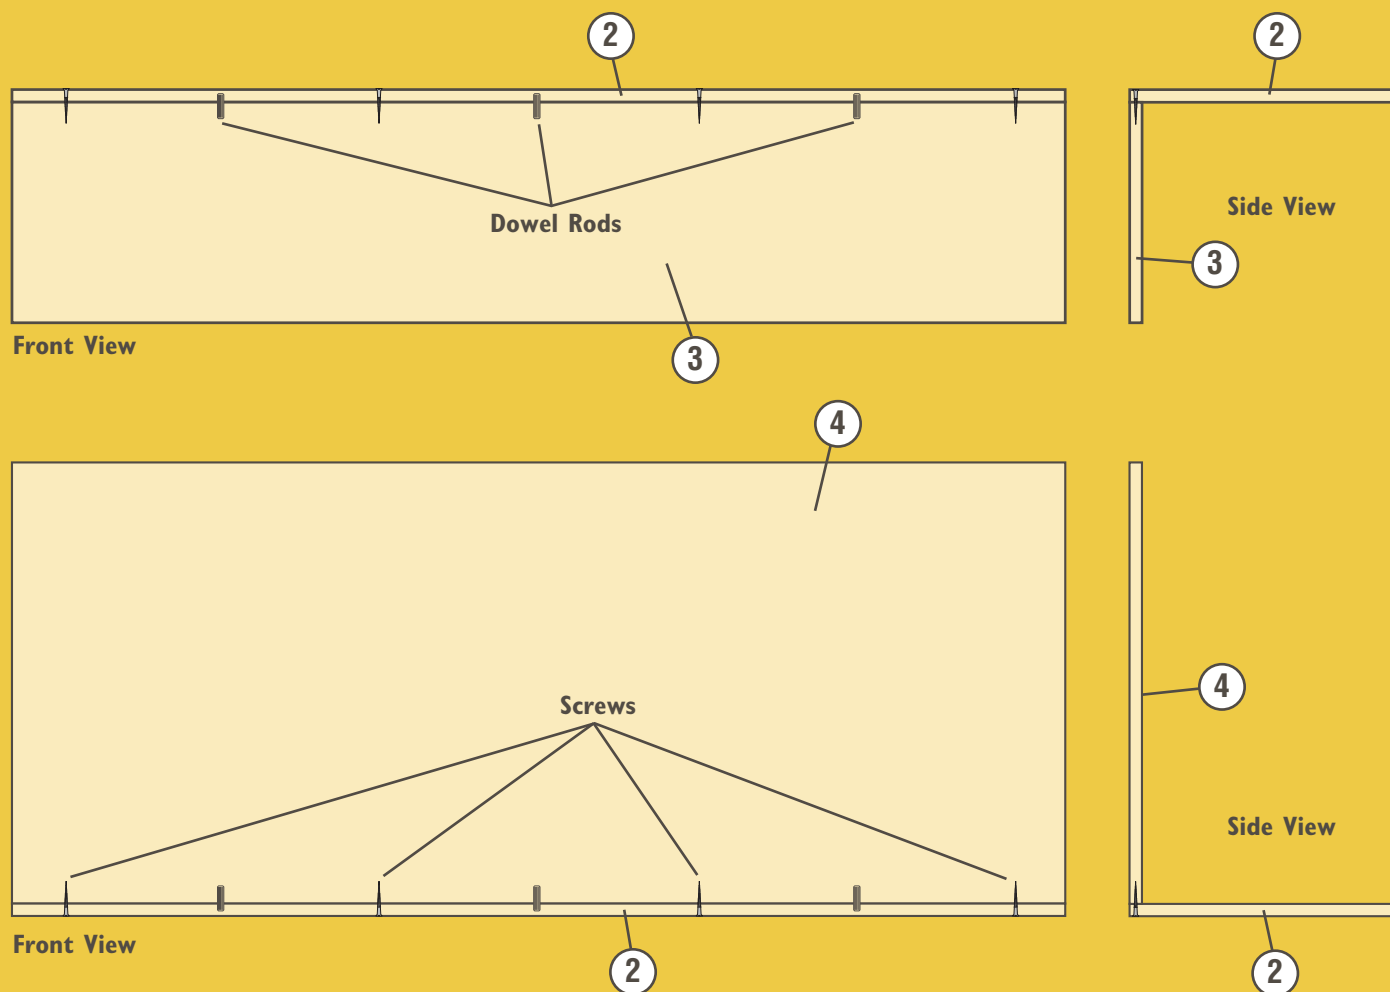

Fig. 2 - Top and Upper Headboard/Bottom and Lower Headboard Assemblies
1. Place the Top (2) on a work surface so that its inside face is oriented up. Position the Upper Headboard (3) on edge on the inside face of the Top (2) so the pieces form an "L." Clamp in place and mark locations for three joint-reinforcing dowels across the back edge of the Top (2) and back face of the Upper Headboard (3). Also mark drilling locations for four screws on the top face of the Top (2). **Fig. 2.**
2. While the Top (2) and Upper Headboard (3) are clamped in place, drill and countersink (if desired) pilot holes for #8 x 2" Screws (not included). **Fig. 2.**
3. Release the clamps to separate the parts. Use a doweling jig and 3/8" drill bit to bore 3/8" x 5/8" deep holes in the inside face of the Top (2) and 3/8" x 1" deep holes in the top edge of the Upper Headboard (3). You will join these pieces with 3/8" x 1 1/2" dowels and wood glue (not included). **Fig. 2.**
4. Repeat Steps 6-8 for the Bottom (2) and Lower Headboard (4), drilling for dowels and screws at the same intervals. **Fig. 2.**